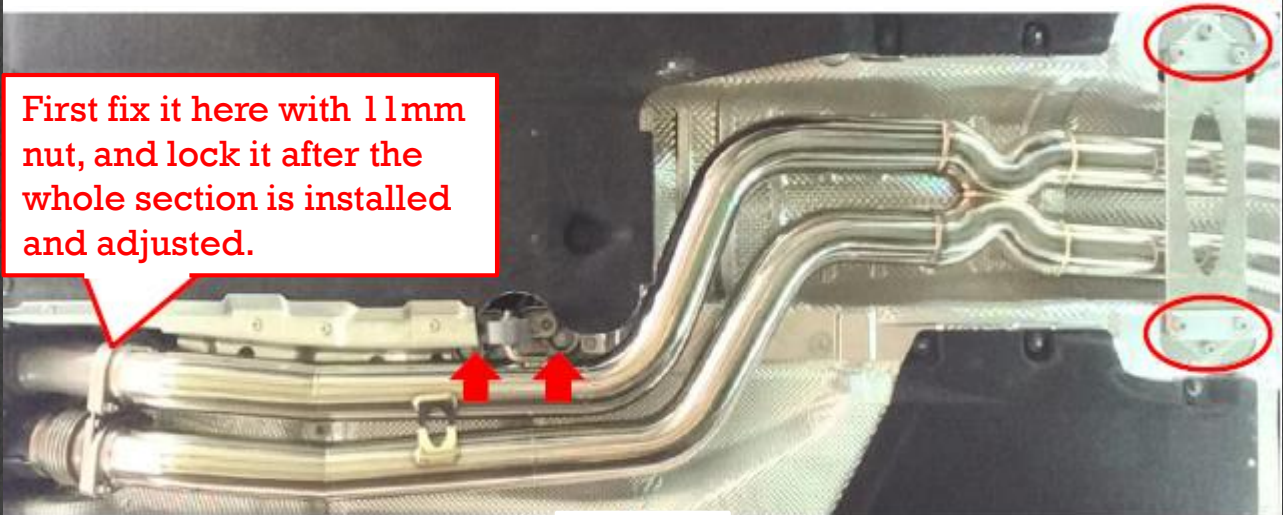

Figure 2-1
1. Use the E10 star wrench to lock the middle and rear lifting lugs to the arrow at Figure 2-1.
Then use the 6mm hex wrench to lock the lower fixing beam to the red circle in Figure 2-1.